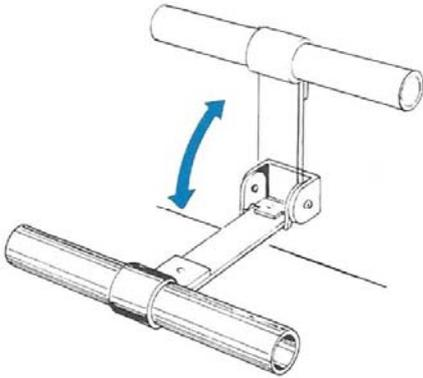

Fig. 6
- Refer to "AM RECEPTION" on page 7. With an AM station tuned in, position the ferrite antenna for optimum pickup. See Fig. 6.